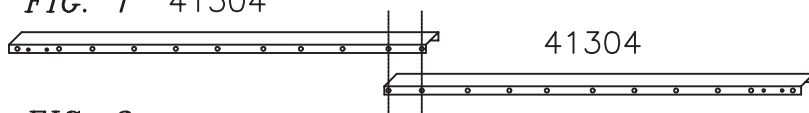

FIG. 2
2. Fix into channel both 41305's with the third hole in from either end lining up (fig 2).
2. FIXER AU TROISIEME TROU, A L'INTERIEUR DU PROFILE DE FACADE, LES DEUX PROFILES 41305 (FIG 2).